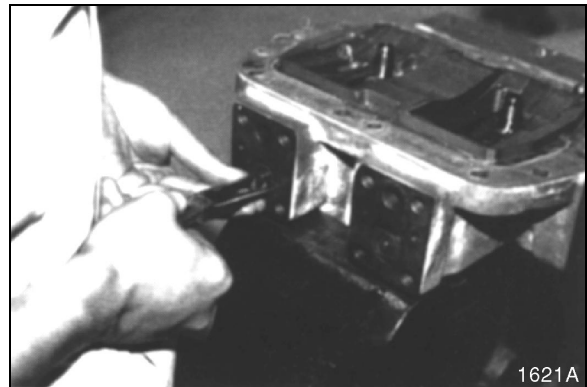

Figure 28
2. Remove ring that retains spring seat, using long nose pliers or a rod with a pointed tip. See Figure 28.